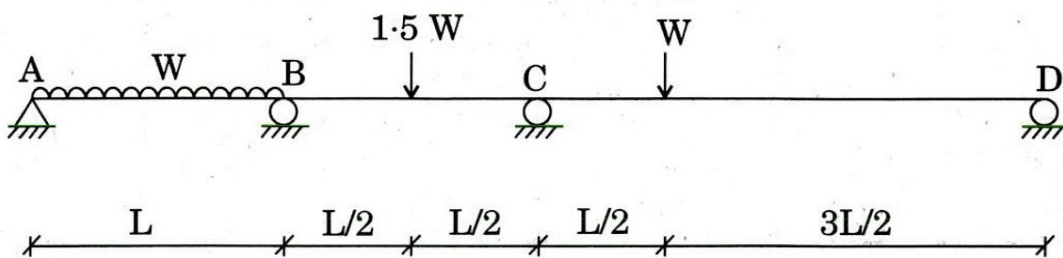

Figure 12
- (c) Determine the collapse load in a three-span continuous beam shown in Figure 12. It has a moment capacity of M_P over the exterior spans AB and CD, and $1.5 M_P$ over the interior span BC. 20